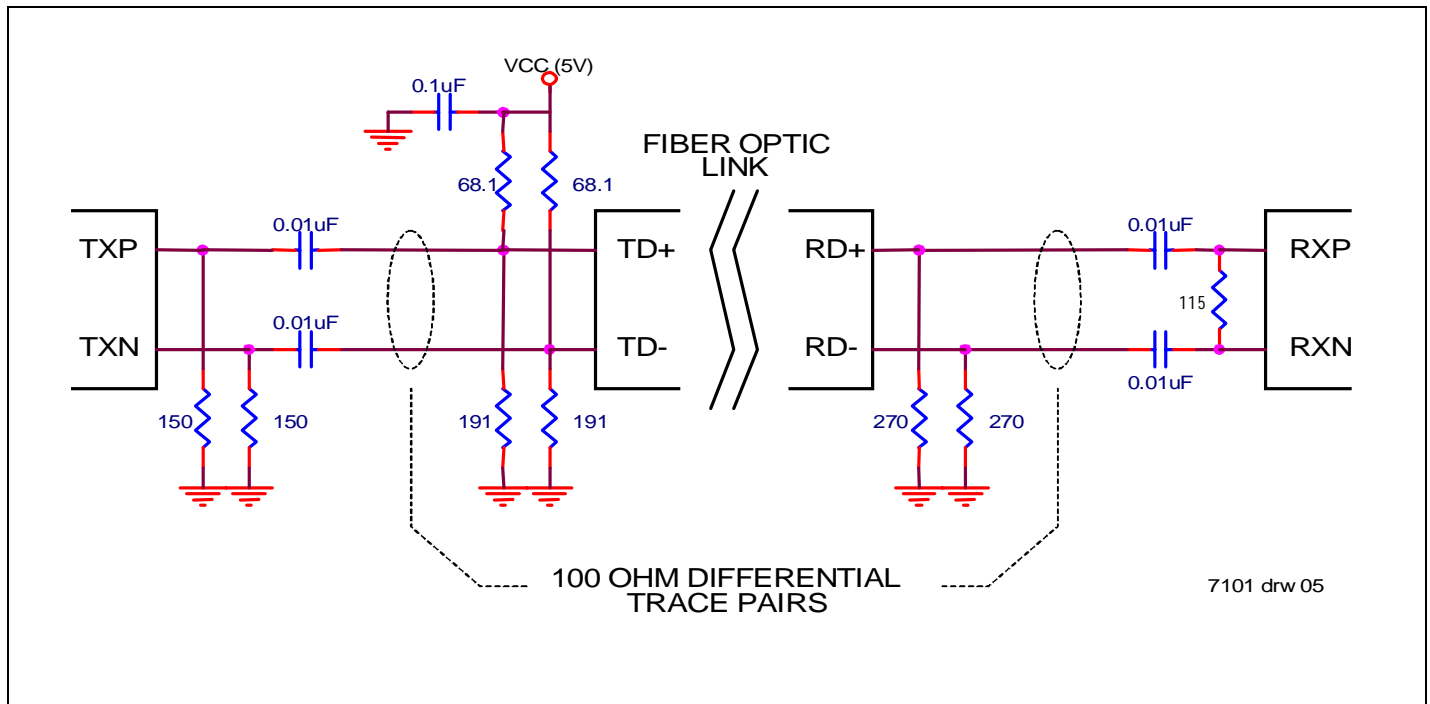

Figure 2 Typical 100BASE-LX/SX Medium Attachment (Fiber Optic Half Link Shown)
Figure 2 shows an internal block diagram of the IDT77V7101. The TXCG[9:0] inputs receive parallel 10-bit transmit code groups, already encoded in 8B/10B format by the PCS chip. The code groups are latched on the rising edges of the incoming 125MHz reference clock (TCLK). Then they are serialized, and the bit stream is retimed by an internal PLL that multiplies TCLK up to 1250MHz. This data stream is transmitted through PECL drivers into the cable or fiber optic module.
**October 6, 1999:** Revised Figure 2. Changed figure numbers. Added "Recommended Operating Conditions."